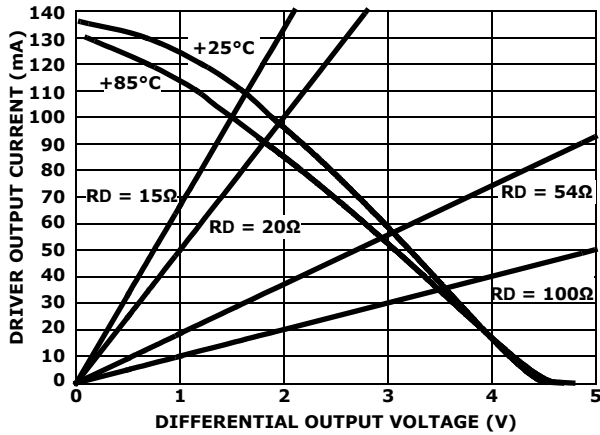

FIGURE 8. DRIVER OUTPUT CURRENT vs DIFFERENTIAL OUTPUT VOLTAGE
18. See Figure 8 for more information, and for performance over-temperature.
Another advantage of the large V_{OD} is the ability to drive more than two bus terminations, which allows for using the ISL315xE in "star" and other multi-terminated, "nonstandard" network topologies. Figure 8 details the transmitter's V_{OD} vs I_{OUT} characteristic, and includes load lines for six (20 Ω) and eight (15 Ω) 120 Ω terminations. The figure shows that the driver typically delivers 1.65/1.5V into 6/8 terminations, even at the worst case temperature of +85 $^{\circ}\text{C}$. The RS-485 standard requires a minimum 1.5V V_{OD} into two terminations, but the ISL315xE delivers RS-485 voltage levels with 3x to 4x the number of terminations.